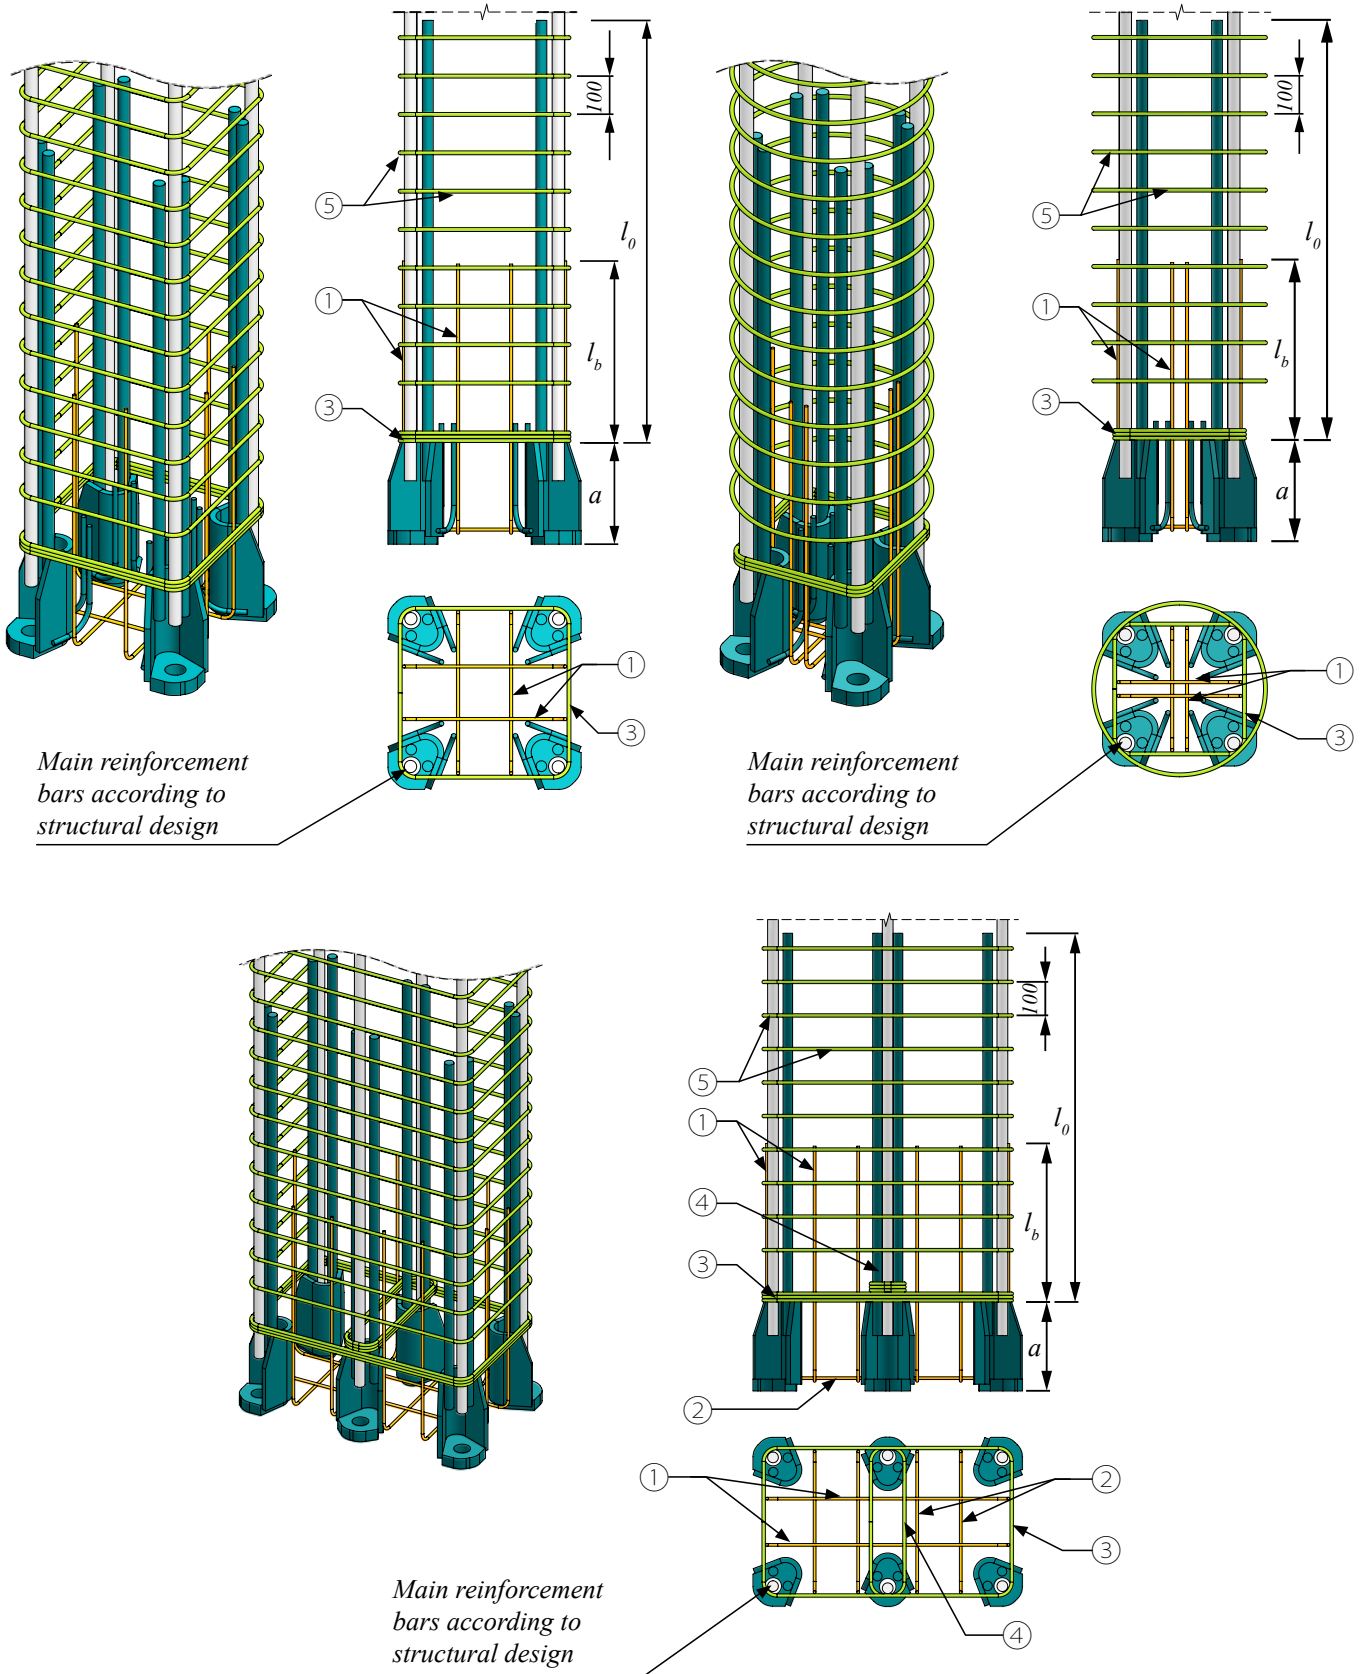

Figure 8. Transverse and supplementary reinforcement needed for BOLDA® Column Shoes (BOLDA 36 shown in the pictures).
- Consideration of the transverse reinforcement present along the lap length (see Table 7 and Figure 8).